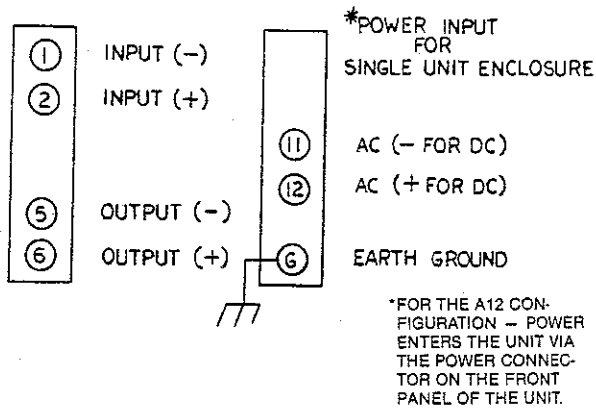

Figure 2-2A Input/Output Connections, SC-1330, A12 and Single Unit Enclosures
**2-2 Connections** — Refer to Figures 2-2A, 2-2B and 2-2C for the connection diagram applicable to your particular model. Signal wire size is dependent upon the distance between the unit and the source. Connections in 2-2A, 2-2B and 2-2C are made to number 6 screws on the terminal block and can accept a .296 dia. spade, ring lug or up to 14 AWG wire.